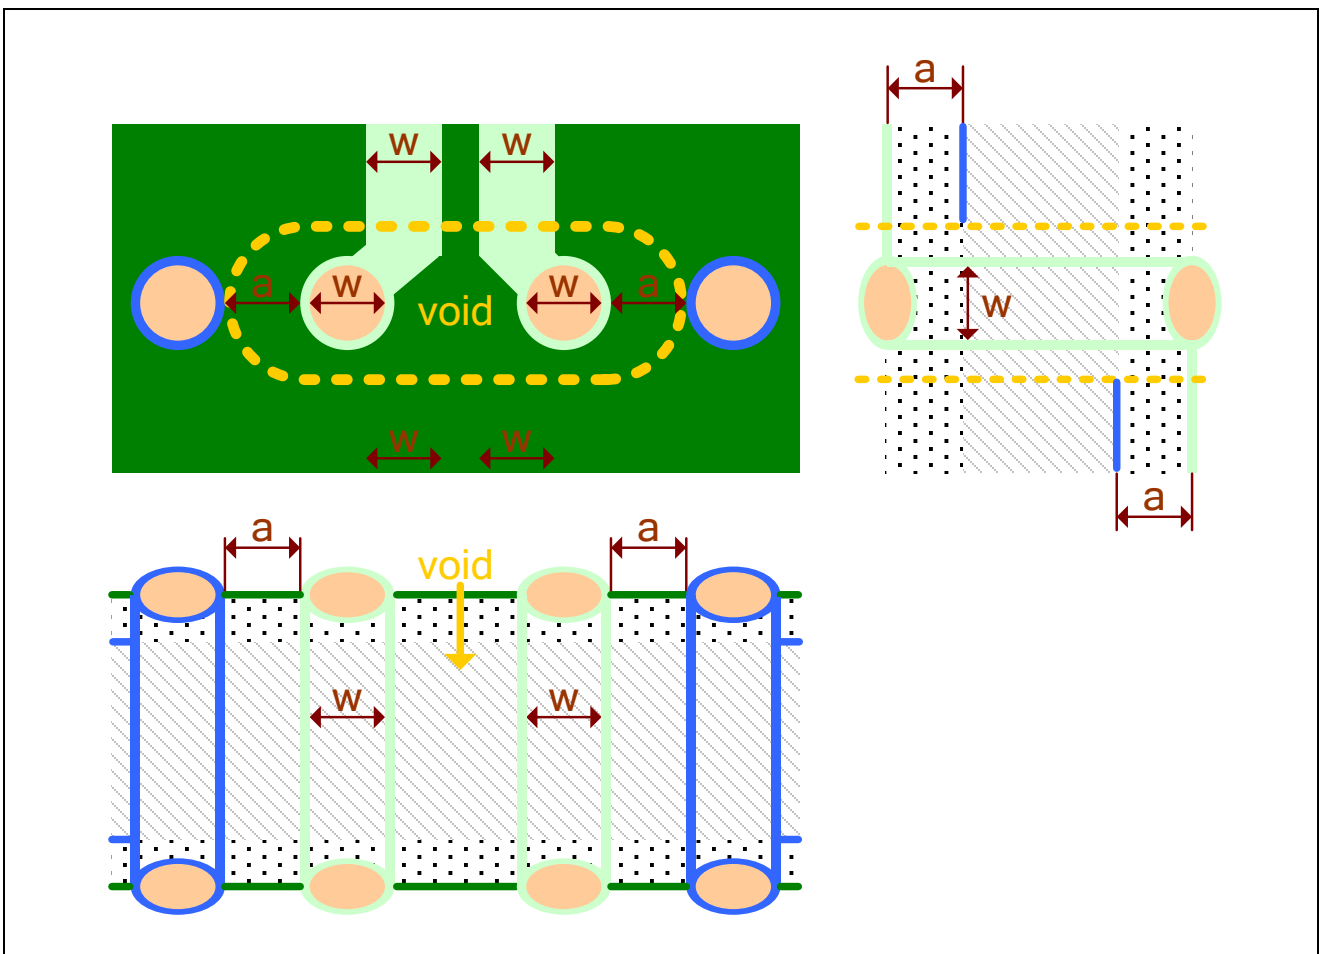

Figure 7.6 Wiring example of the differential signal transmission line (3)
- (a) Vias of the related plane (e.g. AGND) should be placed near the signal vias. The distance between signal via and GND via should be equal to the distance between the layers to avoid a discontinuity of the impedance. (See "Figure 7.6")